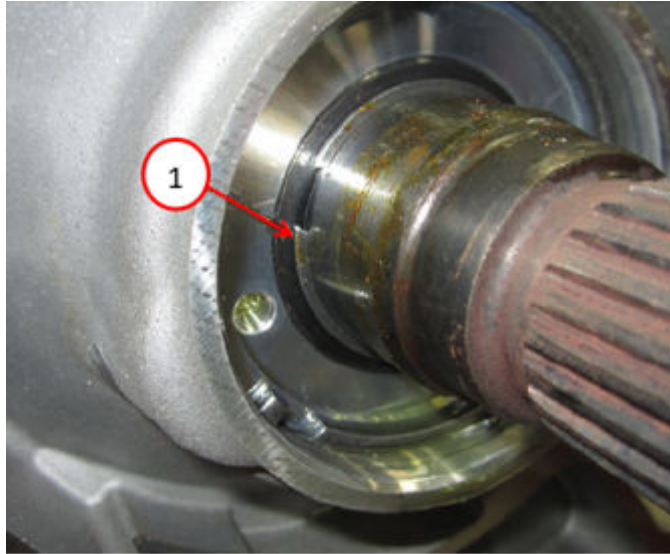

Fig. 5
5. Remove the output shaft snap ring Fig. 5.